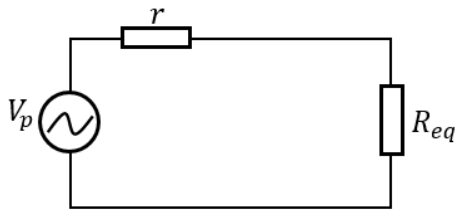

Figure 5: Twin-impedance circuit for amplifier problem with speaker
One of the most common uses of the transformer is to increase the efficiency of transferring power from a power source to a load. Suppose we desire to obtain the maximum possible power which amplifies against internal resistance r and can supply to a speaker with R_L Resistance. The speaker will be connected to an amplifier via a transformer. The equivalent resistance is calculated for the transformer and speaker together: $R_{eq} = a^2 R_L$ We obtained an equivalent circuit as shown in Figure 5. In this type of circuit, we obtain a maximum power of R_{eq} where $r = R_{eq}$. In order that this condition exist, a transformer with the appropriate ratio of bindings (a) is selected and maximum power is obtained for an equivalent Resistor R_{eq} and therefore for the speaker as well. The method of power supply is called **impedance coordination**.
3. Prove that for the circuit in Figure 5 we obtain maximum power on the resistor R_{eq} where $r = R_{eq}$. Hints: Find the expression of the power developing on the resistor R_{eq} using the parameters V_p, r, R_{eq} , reduce the expression by R_{eq} and compare to 0.